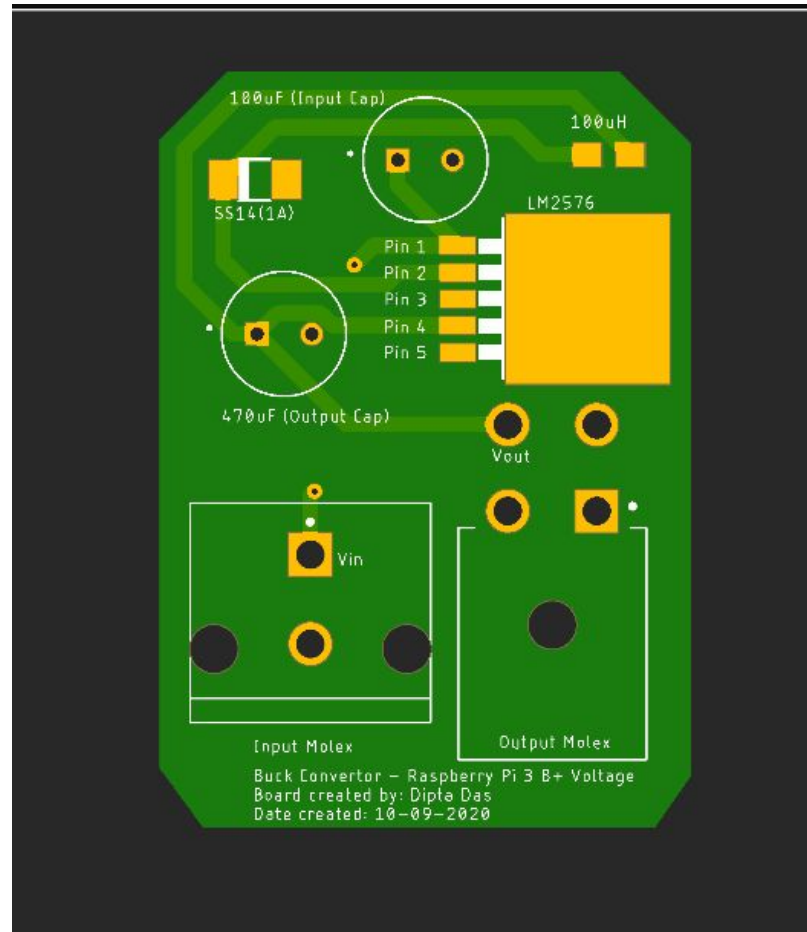

Figure 1.2 : Labeled Buck Converter created by R3 member Dipta Das
- EVERYTHING must be labeled with appropriate labeling and clean design. Use your space wisely and make it look nice. For example, take a look at *Figure 1.2* and *1.3*